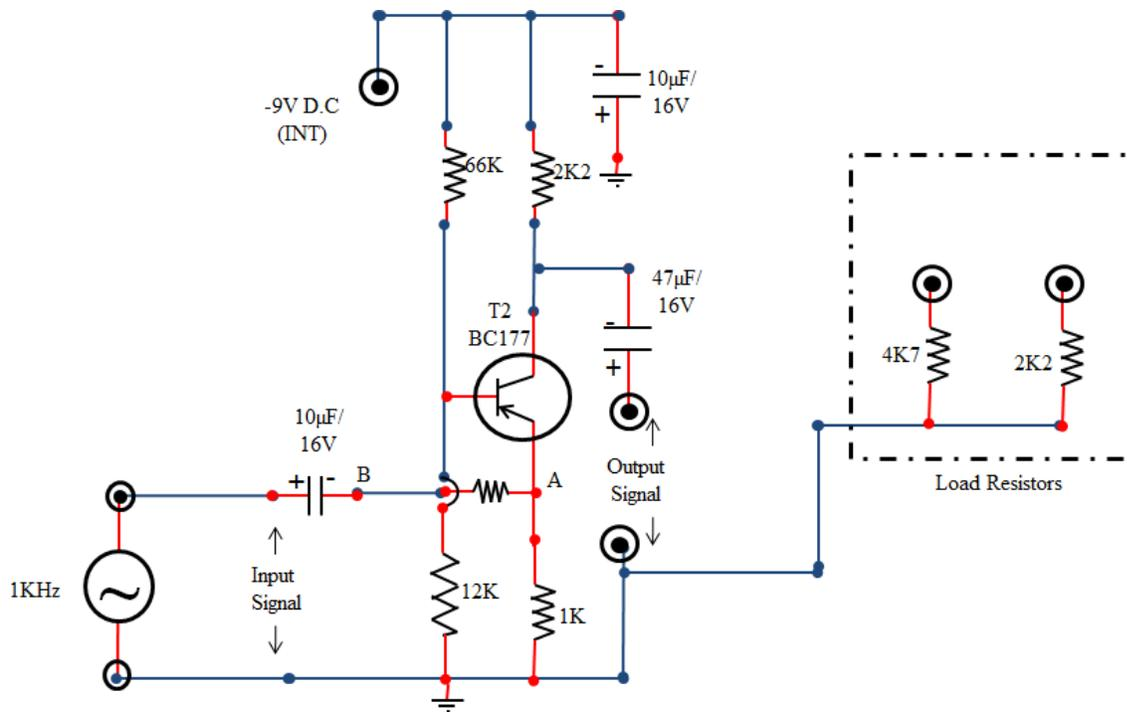

Figure 3. Study of common base transistor amplifier circuit
**OBJECTIVE 2: STUDY OF COMMON BASE (CB) TRANSISTOR AMPLIFIER CIRCUIT AND EVALUATION OF ITS INPUT AND OUTPUT RESISTANCE, VOLTAGE GAIN, CURRENT GAIN AND POWER GAIN**
1. Turn the knob of 1 KHz sine wave generator to fully anti clockwise direction and using connecting leads connect the output of sine wave generator to the input of common base transistor amplifier. Also connect 4K7 resistor as load to the output Ref. to Figure 3